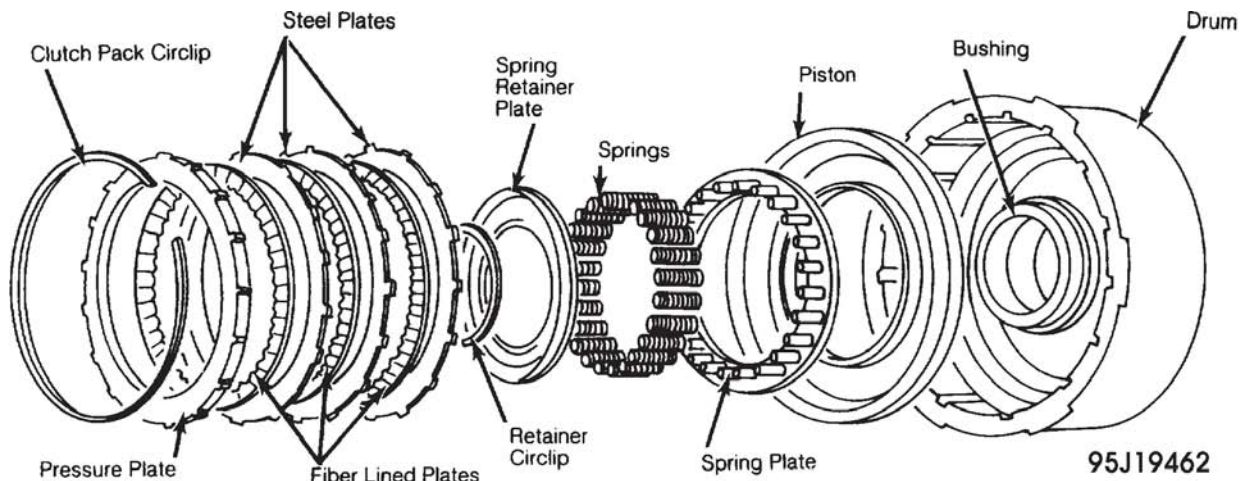

Fig. 17: Exploded View Of Direct-Reverse Clutch Assembly
3. Release press and remove spring retainer plate. With a twisting motion, remove clutch piston with springs and spring plate. Remove seals from clutch piston and drum. See **Fig. 17**.